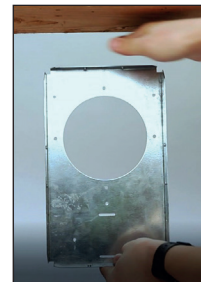

Fig. 3
- Identify the orientation of the Non-Electrical New construction housing based on any interference during mounting. [Fig. 3]